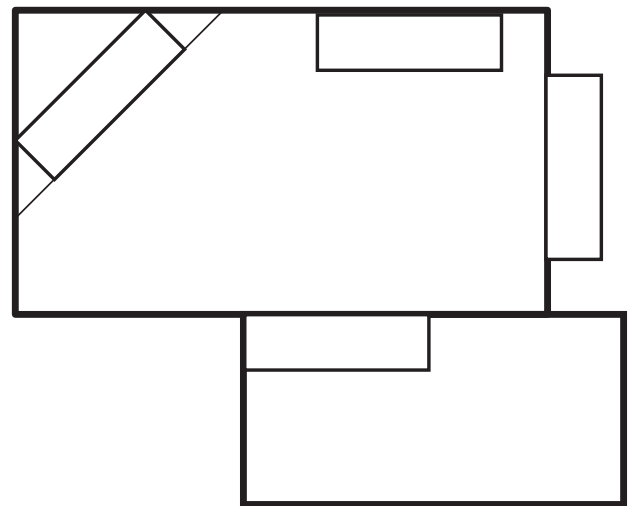
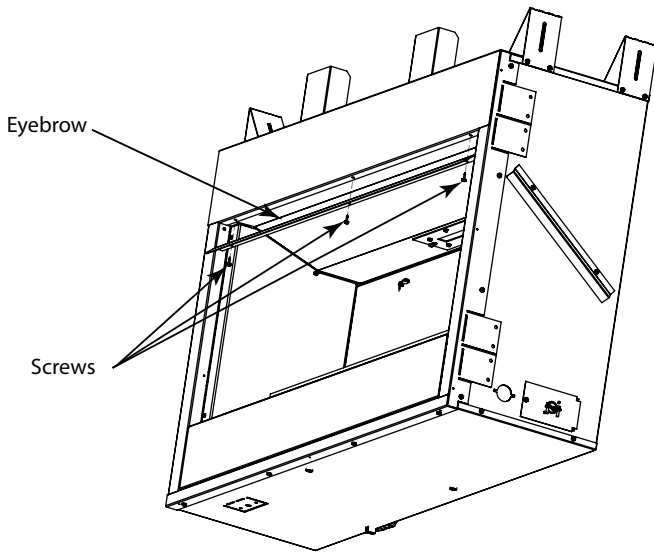

Figure 3 – Possible Fireplace Locations
Figure 4 – Eyebrow Installation
1. Position fireplace in desired location. Refer to the *Fireplace Location* (page 9, Figure 3) and *Clearances and Height Requirements* (page 10, Figures 4 and 5) sections and *Fireplace and Framing Dimensions* (page 7, Figure 2) illustration found in this manual.
- Minimize modifications to existing construction. Refer to *Figure 3* below for location suggestions.
Ensure that minimum clearances shown in *Figures 4 and 5* are maintained. Left and right clearances are determined when facing the front of the firebox.
Eyebrow must be installed with the three (3) screws provided. *Figure 4*.
The dimensions shown in *Figures 4 and 5* are minimum clearances to maintain when installing this heater. Left and right clearances are determined when facing the front of the heater.